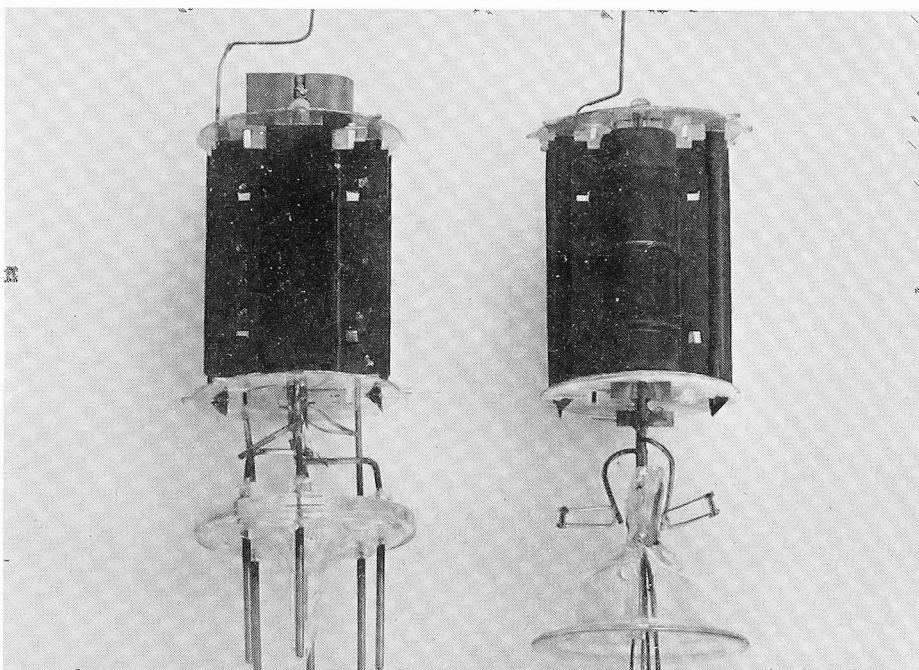

FIGURE 1
*"Stem" is the term commonly used to designate the glass and base lead assembly at the bottom of the bulb. See Figure 1.
heat radiator, but also gives greater clearance between radiator and top-cap lead, which eliminates arcing between them. The extra clearance also reduces electron bombardment of the glass on top of the bulb. Third, the larger space between lead-in wires reduces glass electrolysis that results from the high potentials and high temperature (see Figure 1). Glass electrolysis is chemical decomposition which, in an advanced state, will allow atmosphere to seep into the high vacuum inside the bulb. It will eventually have a catastrophic effect on tube operation.
Sylvania has now developed a truly long-life service-designed tube to relieve the strain on one of the most over-taxed sockets in large screen television receivers. The type 5U4GB high current full-wave rectifier may replace the Type 5U4G, with no wiring changes. The improved tube, along with the new attractive yellow and black Sylvania carton, is shown in Figure 1.